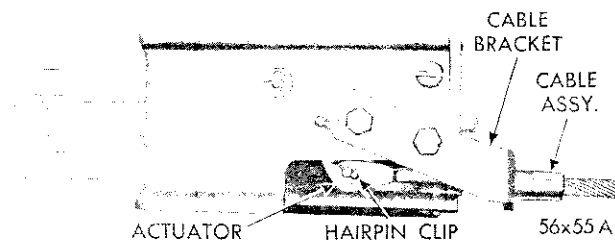

Fig. 3—Exterior View of Gearshift Control Housing (Typical)
(1) Insert end of cable on actuator and reassemble hairpin clip. Place cable bracket on control unit and install screws securely (Fig. 3).
(2) Carefully guide the unit into position from the rear of the instrument panel and install the attaching stud nuts from the front side of the instrument panel.
(3) Install lamp bulb in push button control and reinstall push buttons onto control actuator slides. Replace face plate.
(4) Connect back-up switch and push button illuminating lamp wires.